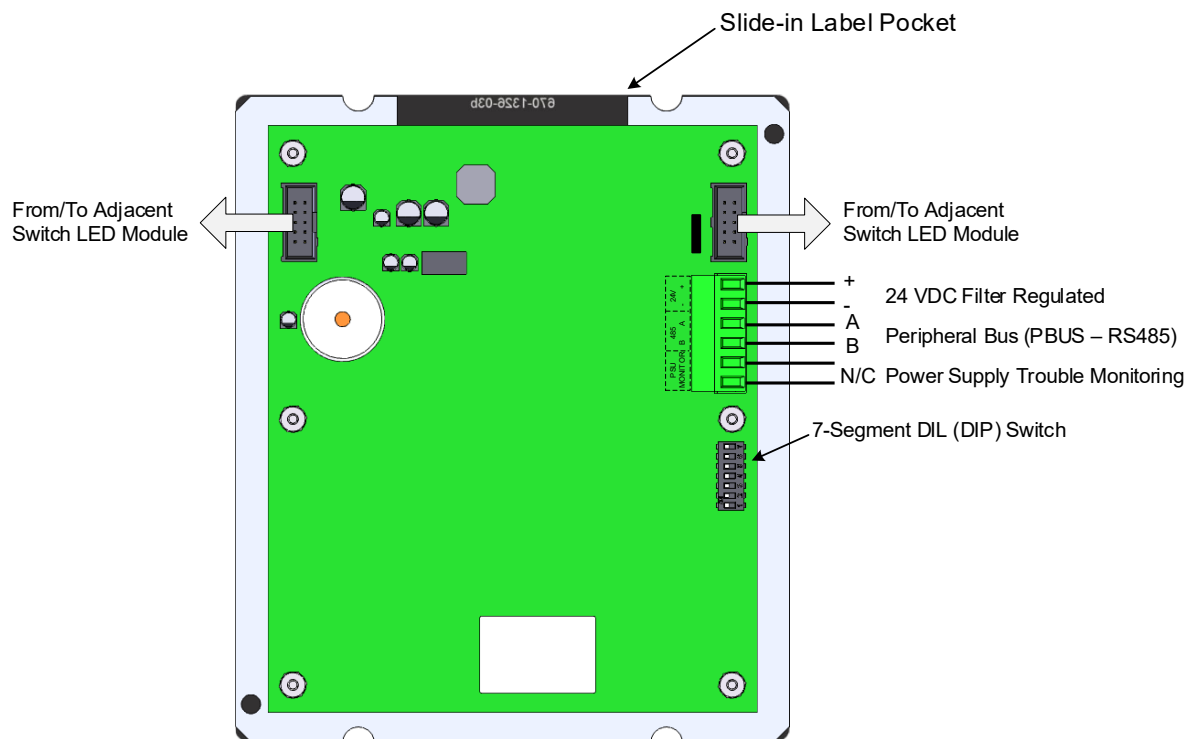
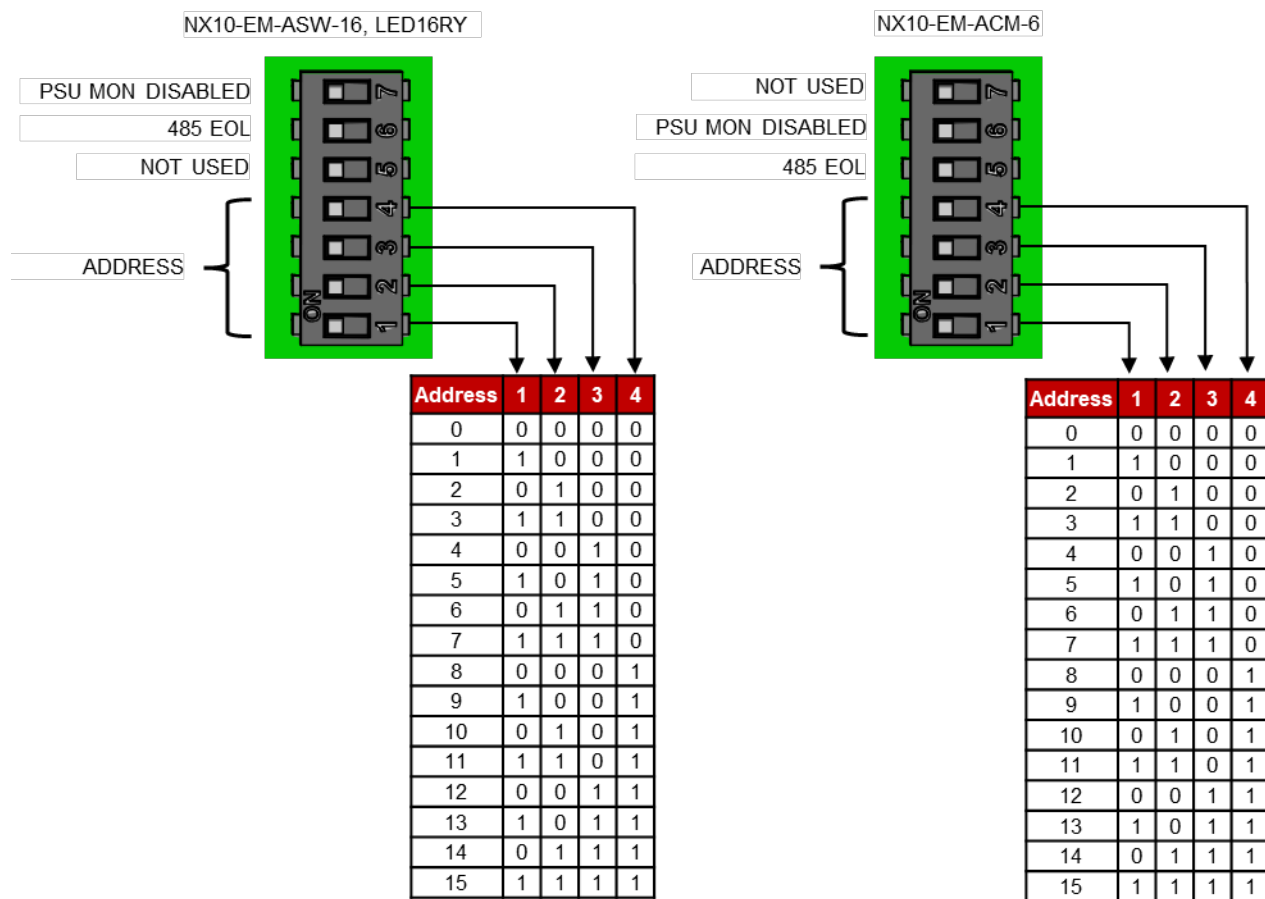

Figure 63 - Switch LED Module Wiring
Figure 65 - Switch LED Module Addressing
Each Switch LED module requires connection to the NX10-ACS base card's peripheral bus and to a 24 VDC filtered and regulated power supply. In addition, the Switch LED module can be wired to supervise a power supply (Figure 63).
To connect a Switch LED module to an Shield peripheral bus, wire terminals A and B of the Switch LED module to terminals A and B of the NX10-ACS base card peripheral bus, A to A, B to B (Figure 63). If the Switch LED module is the last peripheral bus module on the peripheral bus circuit, set the “485 EOL” DIP switch to the ON position (Figure 65).
The 24 VDC power for Switch LED modules can come from any fire alarm listed 24 VDC filtered and regulated power supply (NX10-ACS AUX power [non resettable], NX10-EM-PSU6 power supply charger, or any other power-limited, filtered, and regulated fire alarm listed power supply). Wire 24 VDC filter, regulated power to terminals 24V+ and – of the Switch LED module (Figure 63).
*The Switch LED modules can monitor a remote listed 24 VDC power supply for trouble conditions. To monitor a remote power supply, wire the power supply's trouble N/O contact (fail-safe [closed unless trouble]) to the PSU Monitor terminals of the switch LED module (Figure 63). When monitoring a remote power supply, set the “PSU MON DISABLED” DIP switch to its OFF position (Figure 65).*
As each Switch LED module is connected to a peripheral bus, each module must be configured with a unique address (Figure 65). The address setting corresponds to the peripheral bus programming within the Shield, Dynamix Tools, Neo NX Config Tool.